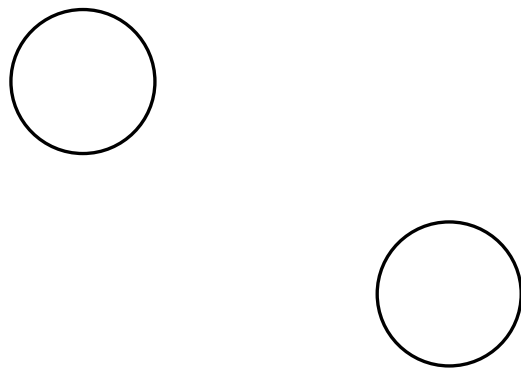

Figure 2
1. Refer to **Figure 2**. The figure shows where the guide blocks are mounted on the baseplate.